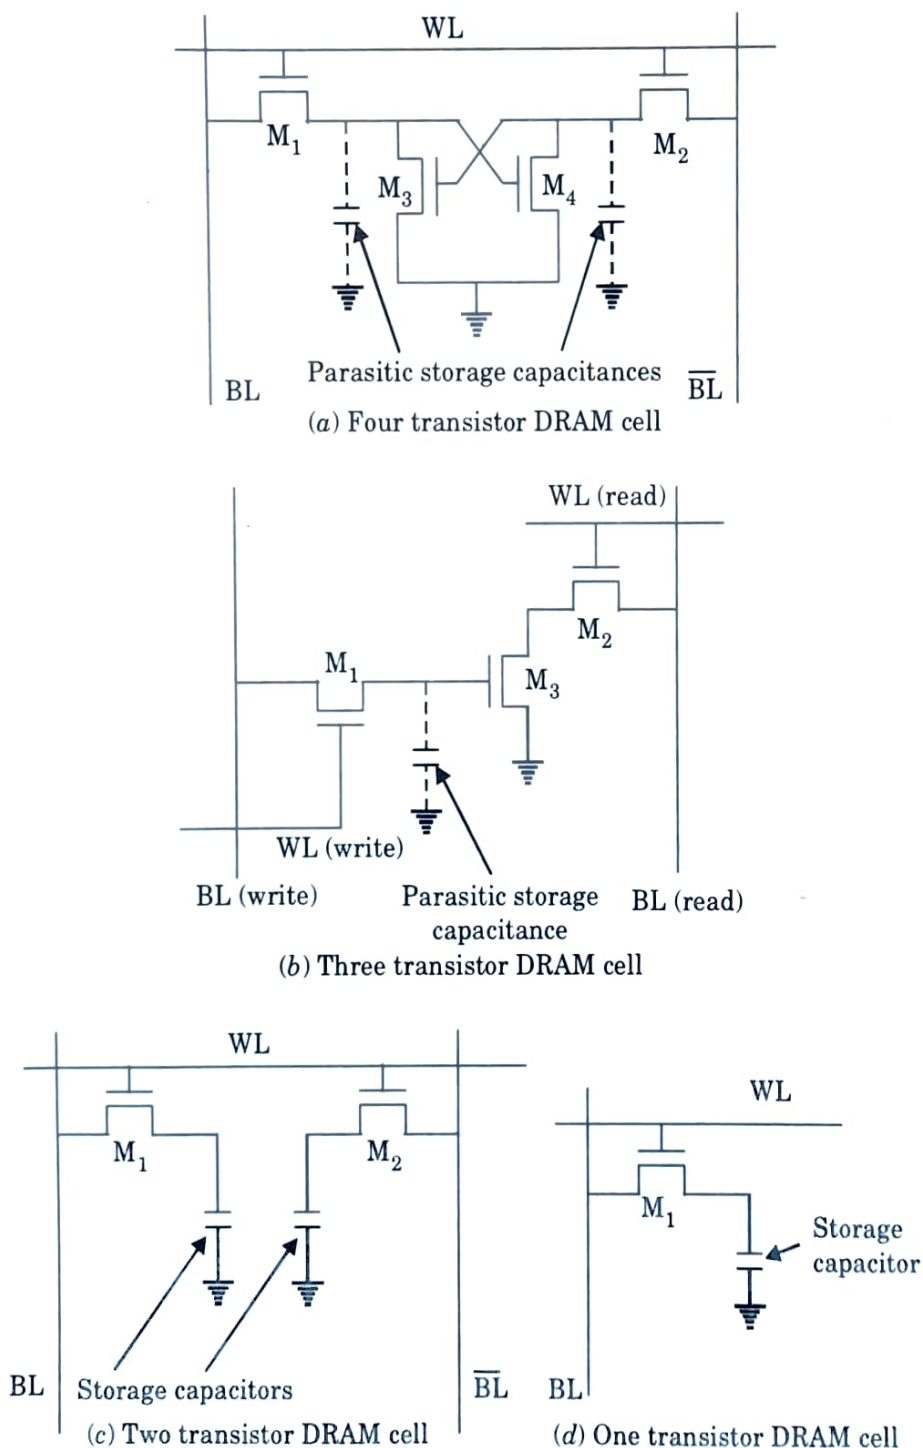

Fig. 4.2.1. Various configurations of the dynamic RAM cell.
1. The various configuration and step wise historical evolution of the DRAM cells is shown in Fig. 4.2.1.
2. In Fig. 4.2.1(a), during write operation, a word line is enabled and complementary data are written from a pair of bit lines. Charge is stored at parasitic and gate capacitance of a node.
4. In Fig. 4.2.1(b), M_3 acts as storage device and one transistor each for read and write operation.
7. In Fig. 4.2.1(c) and Fig. 4.2.1(d) separate capacitor is manufactured for each storage cell instead of relying on the gate and diffusion capacitances of the transistors.